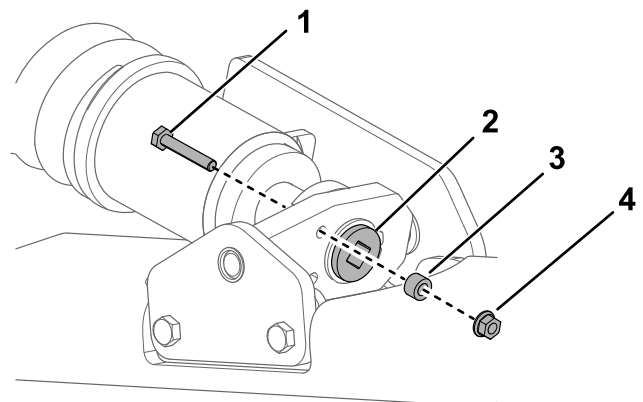
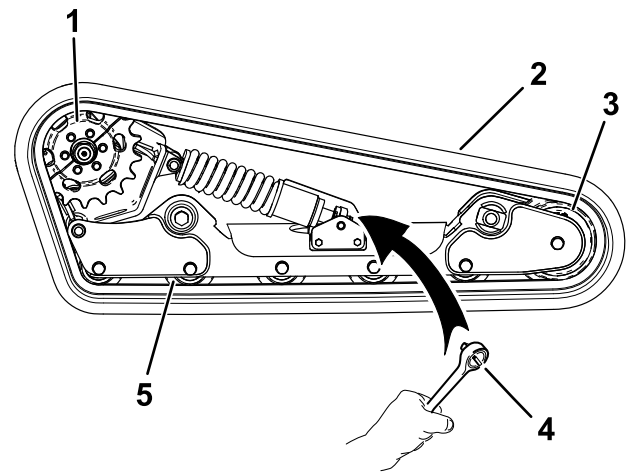

Figure 57
Figure 61
4. Remove the locking bolt, spacer, and nut (Figure 57).
- Align the closest notch in the tension screw to the locking-bolt hole and secure the screw with the locking bolt and nut (Figure 57).
7. Remove the locking bolt, spacer, and nut (Figure 57).
8. Using a 1/2-inch drive ratchet, release the drive tension by turning the tensioning screw clockwise (Figure 57 and Figure 61).
5. Road wheel (5)
9. Remove the 3 bolts securing the sprocket half that is not engaged with the track (Figure 61).
14. Wrap the new track around the front wheel, then wrap the track around the drive hub on the side without the sprocket (Figure 61).
15. Push the track under and between the road wheels and wrap it around the frame (Figure 61).